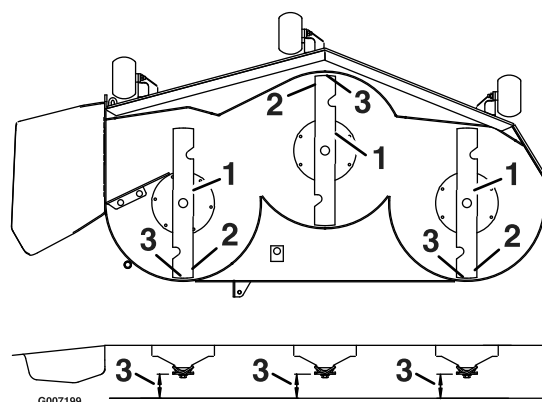

Figure 65
3. Carefully rotate the blades so they are facing front to rear (Figure 65).
4. Measure from the tip of the front blade to the flat surface and the tip of the rear blade to the flat surface (Figure 65). If the front blade tip is not 1/16-5/16 inch (1.6-7.9 mm) lower than the rear blade tip, continue to the Leveling the Mower Deck procedure.